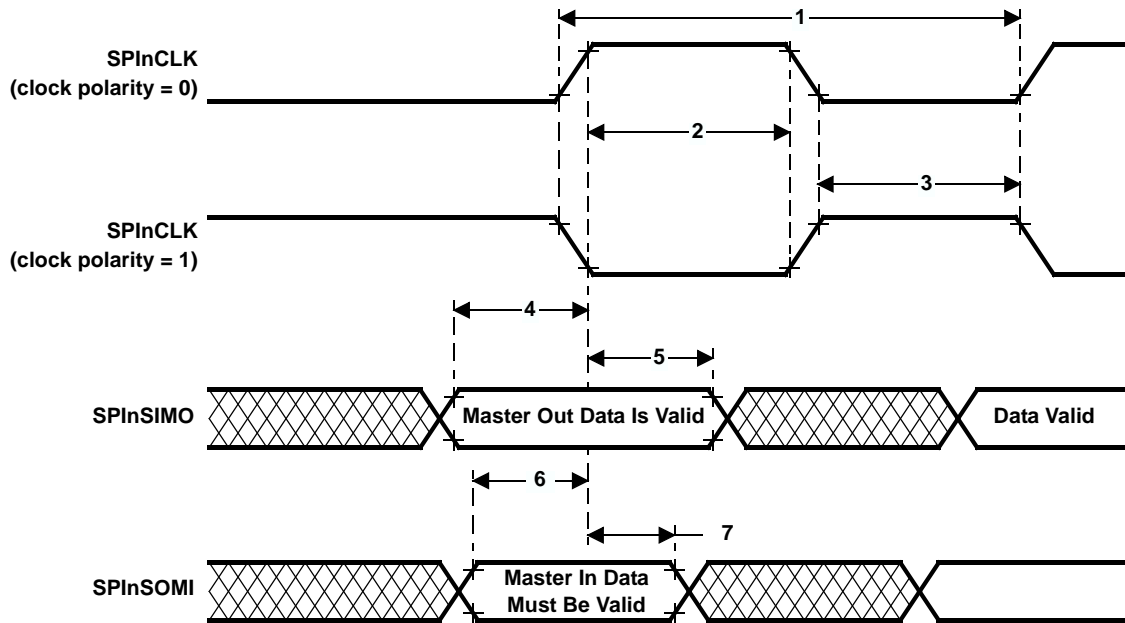

Figure 14. SPIn Master Mode External Timing (CLOCK PHASE = 1)
**SPI master mode external timing parameters (CLOCK PHASE = 1, SPInCLK = output, SPInSIMO = output, and SPInSOMI = input)(1)(2)(3) (see Figure 14)**